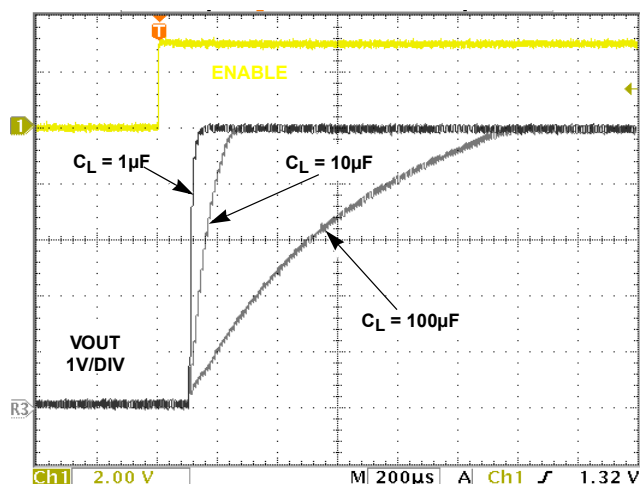

FIGURE 13.  $V_{OUT}$  TURN-ON/RISE TIME vs  $C_{LOAD}$ .  $V_{IN} = 5V$ ,  $R_L = 10\Omega$
The ISL6185 is a dual channel fully independent overcurrent (OC) fault protection IC for the +2.5V to +5V environment. Each ISL6185 incorporates in a single package two 85mΩ P-channel MOSFET power switches for power control. Independent enabling inputs and fault reporting outputs compatible with 2.5V to 5V logic allow for external control and reporting. This device features integrated power switches with current monitoring, accurate current limiting, reverse bias protection and current limited timed delay to turn-off for system reliability. See Figures 13 through 28 for typical operational waveforms including both under-current and over-current situations.
Upon proper bias of the evaluation platform and correct enabling of the IC, the ISL6185 will have a nominal  $V_{IN}/10\Omega$  load current that is lower than the continuous current rating passing through each enabled switch. See Figures 13 and 14 for typical ISL6185 turn-on and turn-off waveforms.